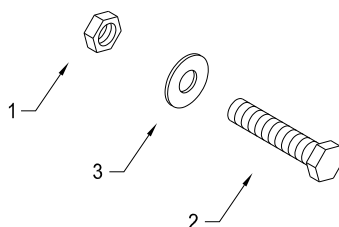

Figure 4
1. Remove contents from carton and examine for damaged or missing parts. See Figure 4.